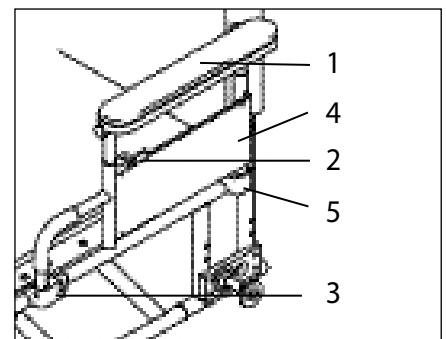

Figure 3
B. REMOVABLE HEIGHT-ADJUSTABLE ARMRESTS (Figure 3)